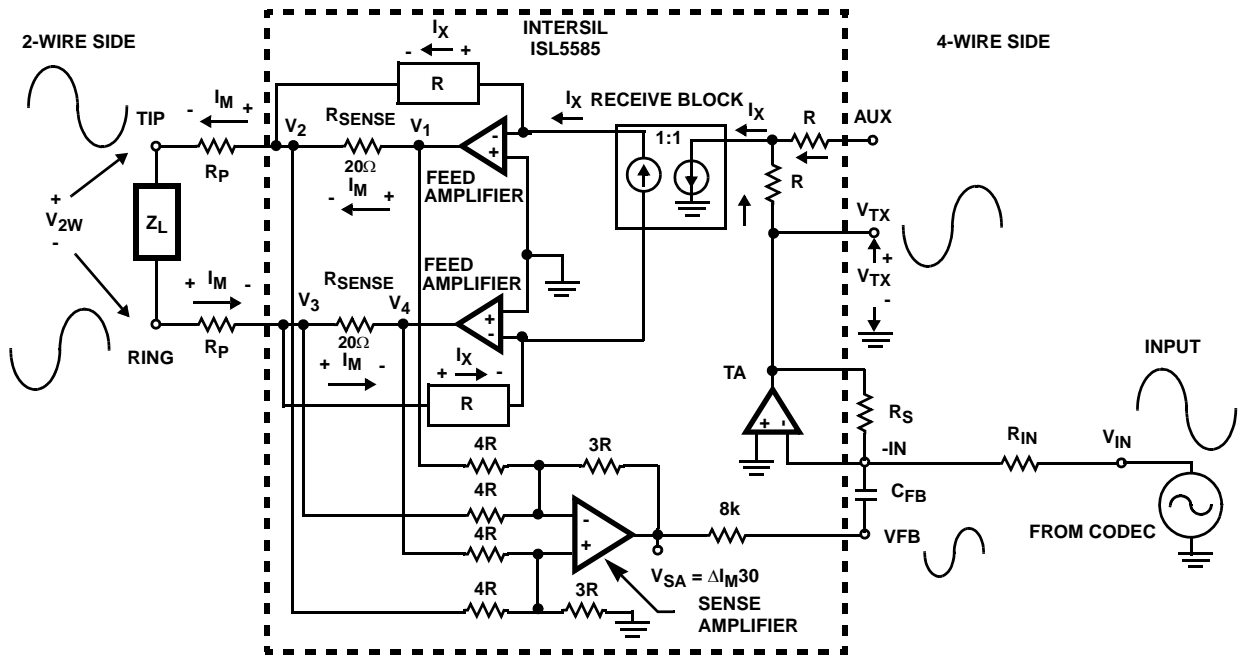

FIGURE 6. 4-WIRE TO 2-WIRE SIGNAL PHASE ACROSS THE ISL5585
Figure 6 illustrates the phase of the input signal across the ISL5585 when the signal is applied at the -IN pin of the ISL5585 through the  $R_{IN}$  resistor. The Transmit Amplifier (TA) inverts the signal 180 degrees at the VTX pin. The feedback around the tip amplifier inverts the signal again on the tip lead. The input signal will cause AC loop current to flow through the 20 Ω sense resistors in the direction from V1 to V2 and V3 to V4. This results in an inverted signal (referenced from tip) on the VSA and thus the VFB pin. This out of phase signal is the signal used by the feedback path to match the line impedance of the 2-wire side.